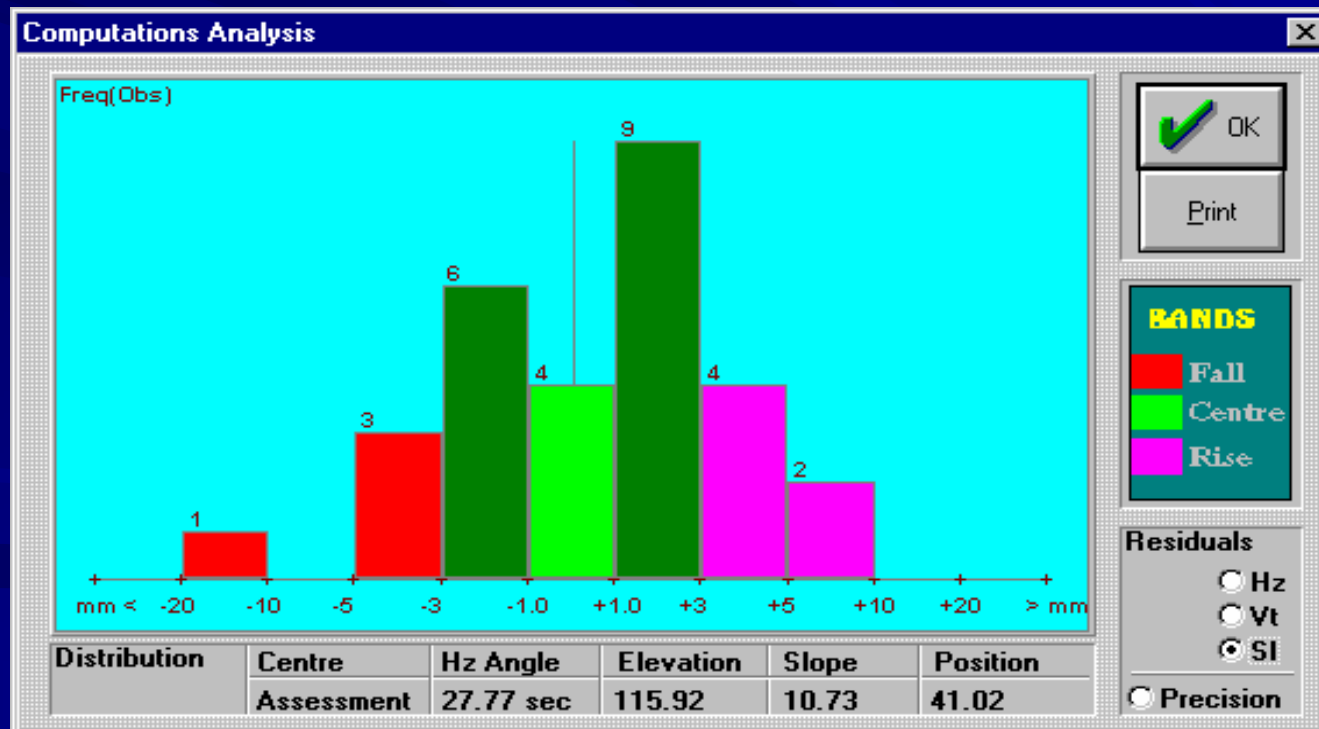

Fig. 10-1
- Histograms are included to further assist in analysis, such as in computations, Fig. 10-1.